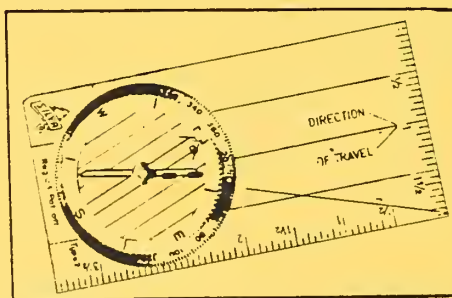

Figure 1.--Liquid-Filled Compasses.
33.12 - Liquid-Filled Compasses. These compasses (figure 1) are simpler to operate than the box compass. The main difference between the box compass and the liquid-filled compass is that the azimuth circle on the liquid-filled compass is graduated in a clockwise direction beginning with 0° at the north. In using these compasses, disregard the azimuth circle on the plastic base. Use the azimuth graduations on the aluminum dial.
Opposite the correct declination for the area scratch in line A into the plastic base as shown in photograph (figure 1). This is called the "azimuth line," A.